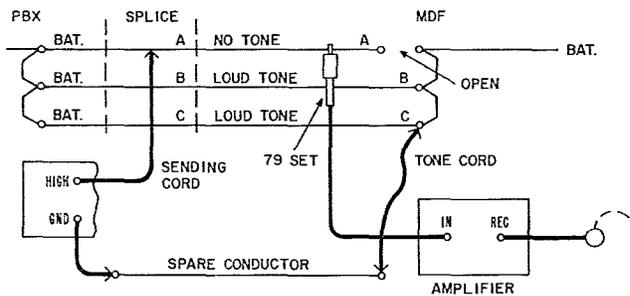

Fig. 9—Remove Heat Coil
- (b) If the battery conductor with the loud tone is opened momentarily at the frame by removing the heat coil (Fig. 9), the tone on this conductor should stop and that on the other interconnected conductors should increase.